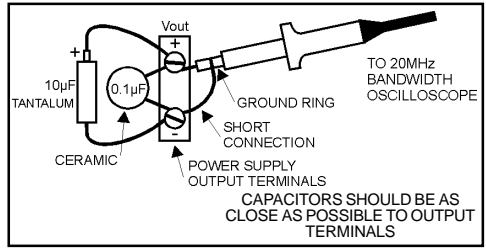

Figure 2. Measuring Output Ripple Voltage
5.2 Noise and ripple at the outputs should be measured as shown in Figure 2. This is done with a 20 MHz bandwidth oscilloscope with a probe isolated from ground. A 10 μ F tantalum capacitor and 0.1 μ F ceramic capacitor are connected directly across the output terminals. The ground connection to the probe should be as short as possible to prevent noise pickup.